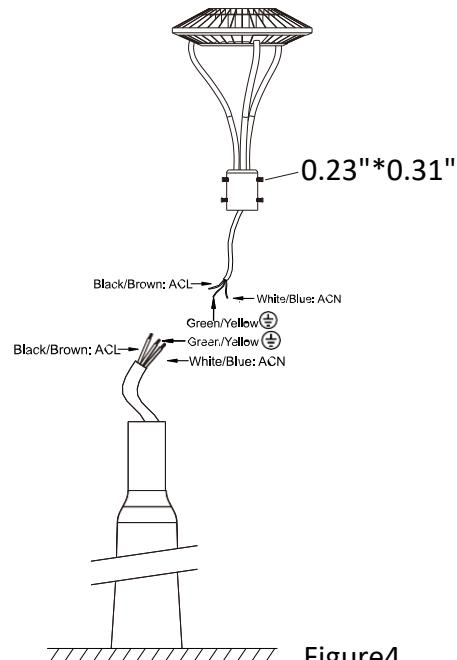

Figure 4
4. Loosen the handle screw and connect the corresponding LN Gwire to make it waterproof. (Figure 4)